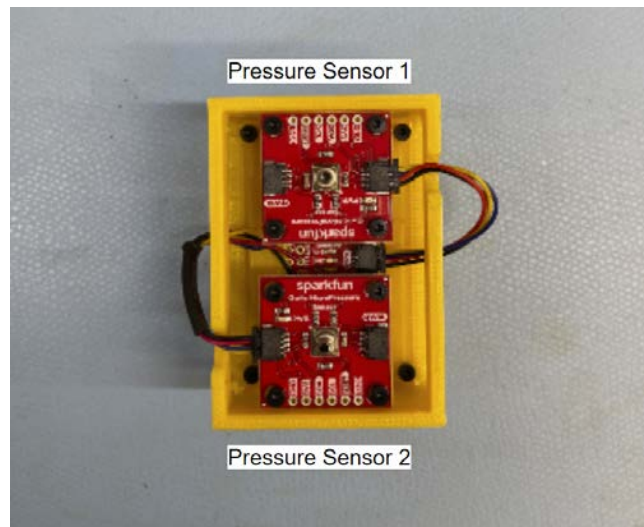

Figure 93: Qwiic cables are connected to the respective pressure sensor
15. Connecting the pressure sensors (Fig 93):